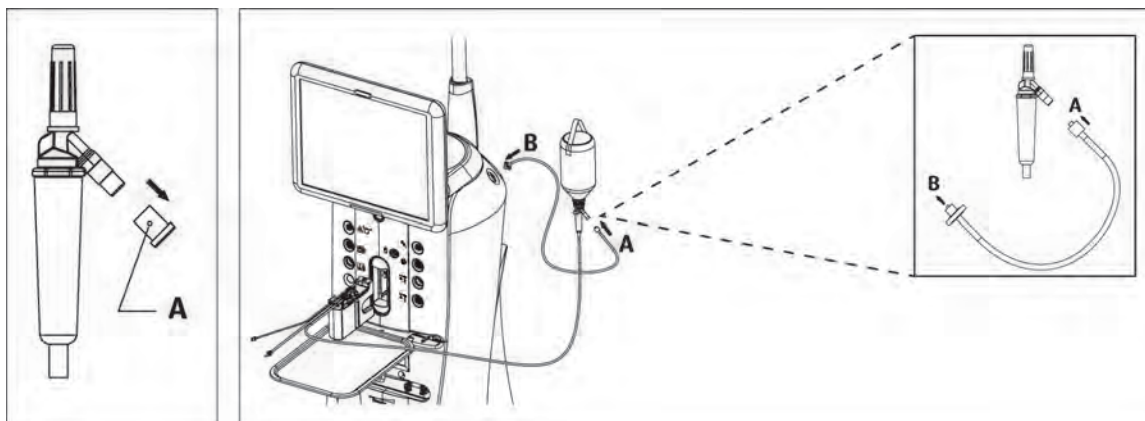

Figure 4.43. Pressurized Infusion Setup.
1. Remove the filter cap (A) from the bottle spike venting port that comes with the system disposable pack in Figure 4.43.
2. Connect the Air Tubing Line male connector to the bottle spike venting port (A) in Figure 4.43.
3. Connect the Air Tubing Line filter to the vision enhancement system air source (B) in Figure 4.43.